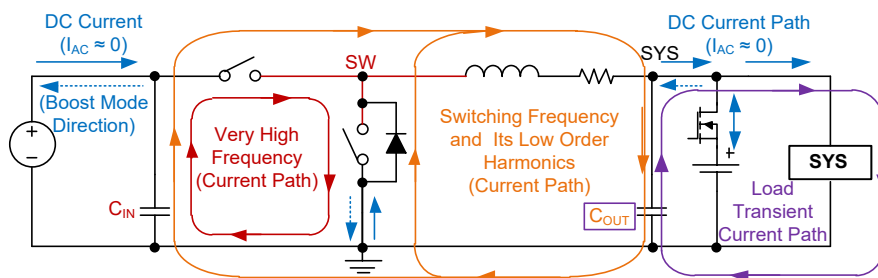

Figure 20. The Paths and Loops Carrying High Frequency, DC Currents and Very High Frequency (for Layout Design Consideration)
The switching node (SW) creates very high frequency noises, which are several times higher than  $f_{SW}$  (1.5MHz) due to sharp rise and fall of the voltage and current in the switches. To reduce the ringing issues and noise generation, it is important to design a proper layout for minimizing the current path impedance and loop area. A graphical guideline for the current loops and their frequency content is provided in Figure 20. The following considerations can help to make a better layout.